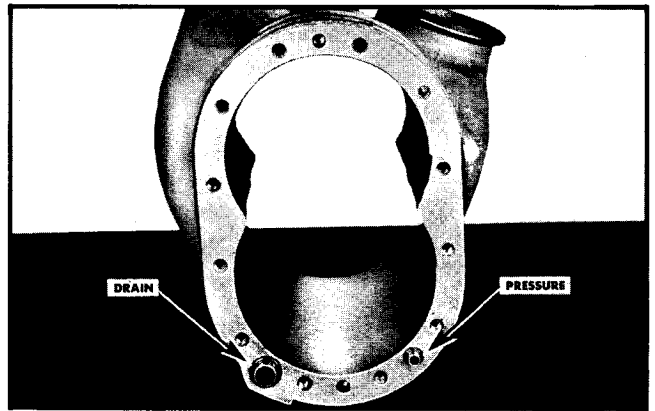

Fig. 10-11. Oil seal rings (on each end of housing)
11. After proper end clearance is obtained, replace housing to end plate. Use new rubber seal rings on the oil pressure and drain line ferrules. See Fig. 10-11.